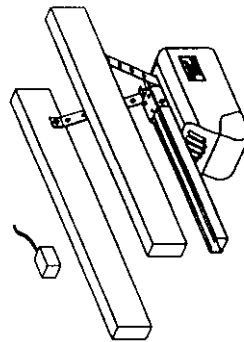

Figure 1-2
• **DISCONNECT** the existing external radio receiver from the garage door opener. (Figure 1-2)